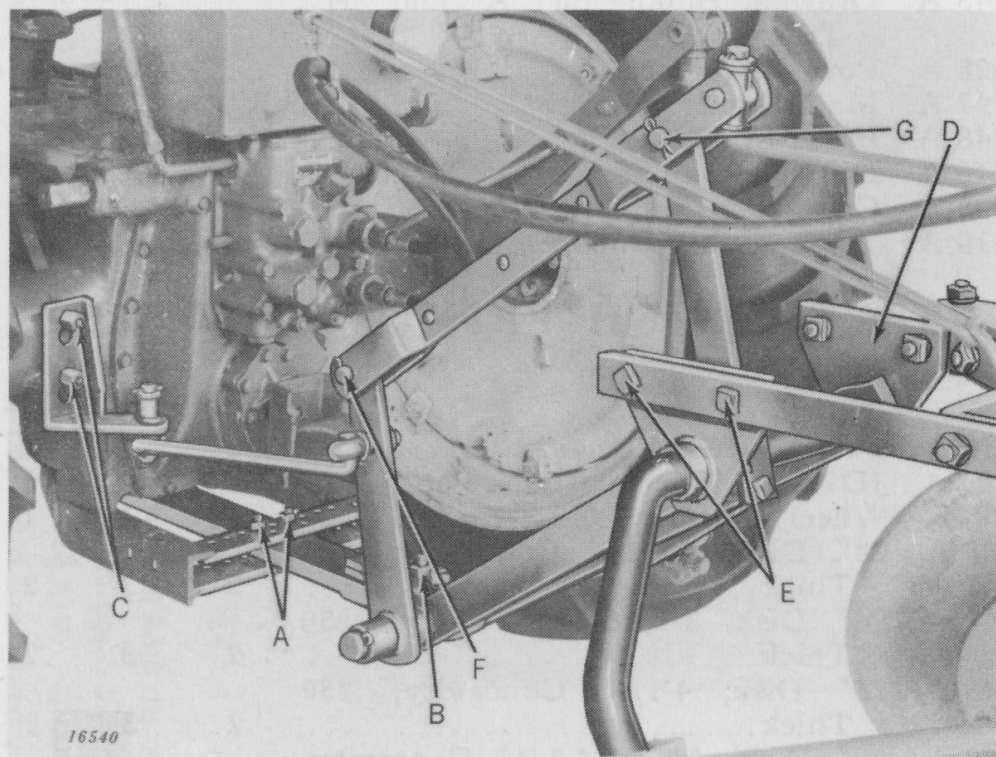

Figure 9—Attaching Hitch
Remove the swinging drawbar from the tractor and put on drawbar furnished with the plow. Bolt the drawbar to the center of the crossbar at "A," Figure 9.
Bolt the hitch to drawbar on tractor at "B," Figure 9.
Attach bracket to tractor housing at "C," Figure 9.
9. Bolt left-hand hitch plate to frame at "E," Figure 9.
Attach front steering link at "F" and "G," Figure 9.